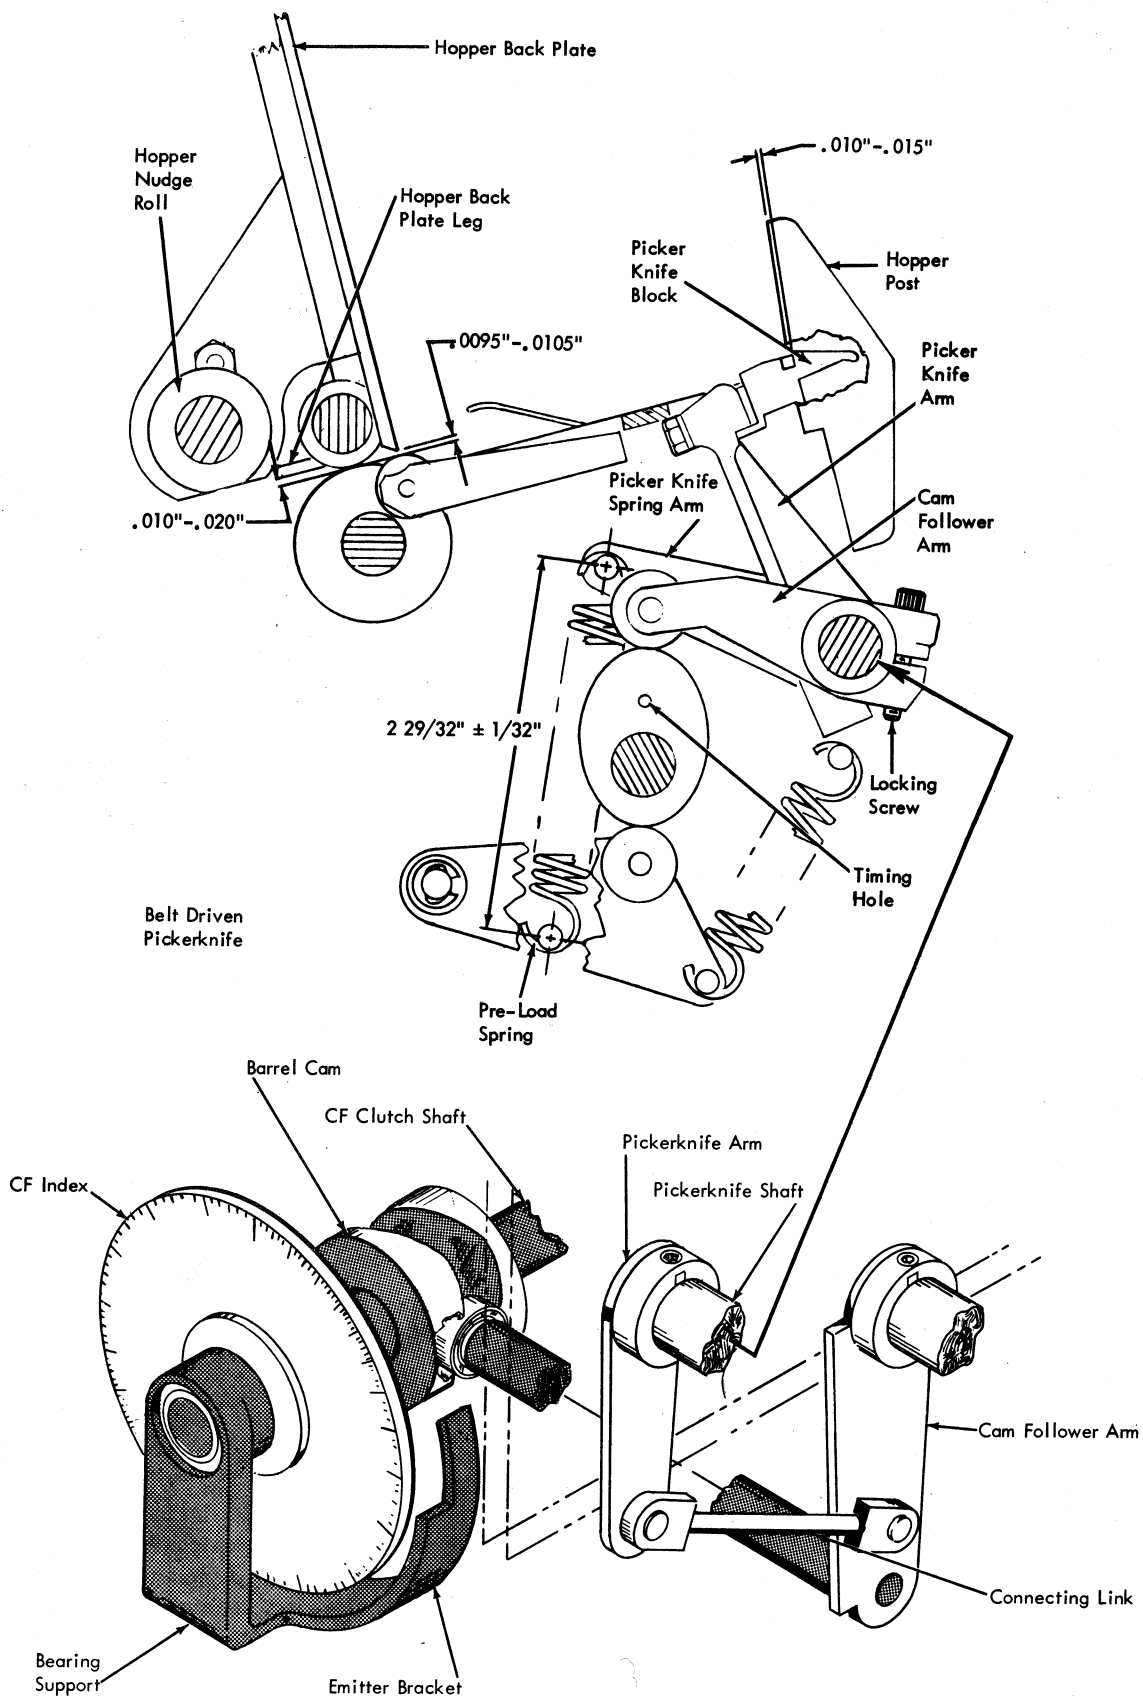

Figure 4-7. Pickerknife and Throat Adjustments
3. Step 3 is for machines with barrel cam pickerknife drive. Remove connecting link (Figure 4-7), loosen follower arm setscrew and slide cam follower free of cam.
2. Remove connecting link ( Figure 4-7).
1. Position throat roller so the high point is located under the tip of the throat knife. See Figure 4-7. This can be checked by: (1) loosening the throat knife, (2) lowering it on a  $.010"$  gage, and (3) positioning the throat roller so the gage is parallel to the card path.
- b.  $.010"$  to  $.020"$  clearance between top of feed rolls and bottom of hopper back plate leg. See Figure 4-7.
1. Place feed knife cam follower on high dwell (Figure 4-7). Insert timing pin.
3. Adjust position of pickerknife operating arms so each feed knife is  $.010"$  to  $.015"$  behind the inner face of the rear guide posts, and in line with each other (Figure 4-7). Remove timing pin. Each pickerknife block is fixed on its arm. Two Carboloy\* pieces, ground to specification for proper knife projection, are inserted in the block surface to resist wear. Knife projection is not adjustable; therefore, the pickerknife block must be replaced when the inserts become worn.
2. Adjust position of pickerknife operating arms so each feed knife is .010" to .015" behind the inner face of the rear guide posts, and in line with each other (Figure 4-7). Two Carbaloy\* pieces, ground to specification for proper knife projection, are inserted in the block surface, to resist wear. Knife projection is not adjustable; therefore, the pickerknife block must be replaced when the inserts become worn.